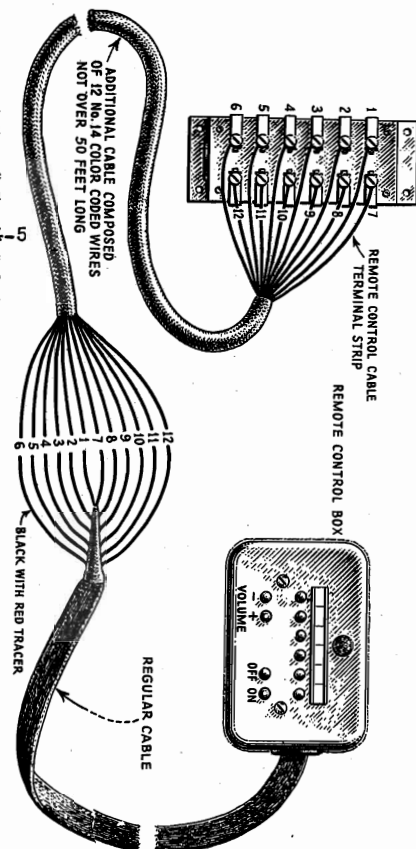

Figure 5
If, however, it is desired to place the remote control box at a greater distance from the set, any twelve conductor cable, the wires of which are No. 14 or larger in size, may be used to splice onto the regular cable and increase the total length up to seventy-five (75) feet. Figure 5 shows the method recommended for adding this additional cable.